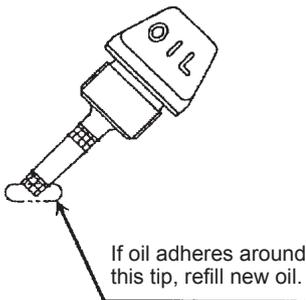
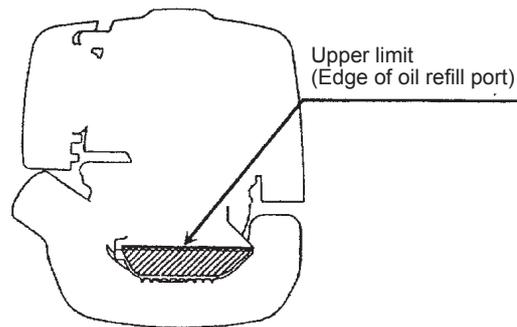

Fig. 1
Fig. 2
- While keeping the engine level, remove the oil gauge, and confirm that the oil is filled within the upper and lower limit marks. When the oil is in short in such a way that the oil gauge touches the oil only by its tip, in particular with the oil gauge remaining inserted in the crankcase without screwing-in (Fig. 1), refill new oil near the port (Fig. 2).
2) Fill oil up to the edge of the oil refill port. (Refer to Fig.2 of the preceding page).